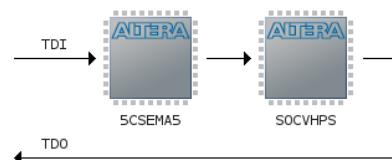

Figure 8-17. JTAG Scan Chain
You should now see 2 devices on the JTAG scan chain, as shown in Figure 8-17.
37. Right-click on the “5CSEMA5” device shown in Figure 8-17 and choose “Edit > Change File”. Then, select “DE1_SoC_demo/RTL/quartus/output_files/DE1_SoC_demo.sof” through the file browser.